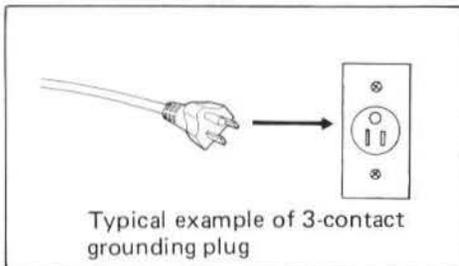

Fig. 21
Connect the power cord ③ to the receptacle ② at the back of the microscope stand. (Fig. 21)
1. Make sure that the power switch ① is turned OFF. (Fig. 21)
2. Plug the power cord ③ with a 3-contact plug into the AC outlet. (The plug will fit into a grounding type power outlet, and there is no need to connect it to any other grounding devices.)